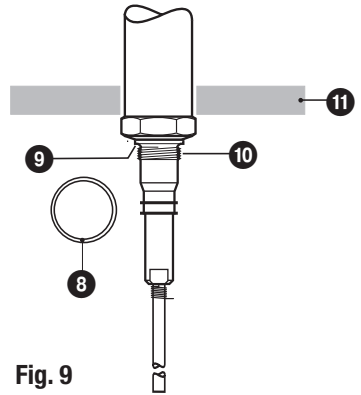

Fig. 9
2. Place supplied gasket ⑧ onto seating surface of the threaded standpipe or flange. **Fig. 9**
3. Apply a light smear of silicone grease (e. g. WINIX® 2150) to electrode thread ⑩.